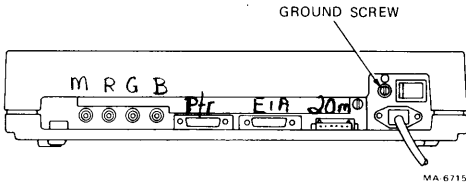

Figure 5-4 VK100 Terminal (Rear View)
3. From the rear of the terminal, remove the grounding screw securing the connector bracket to the power supply chassis (Figure 5-4). The screw may be removed with either a nutdriver or a blade-type screwdriver.